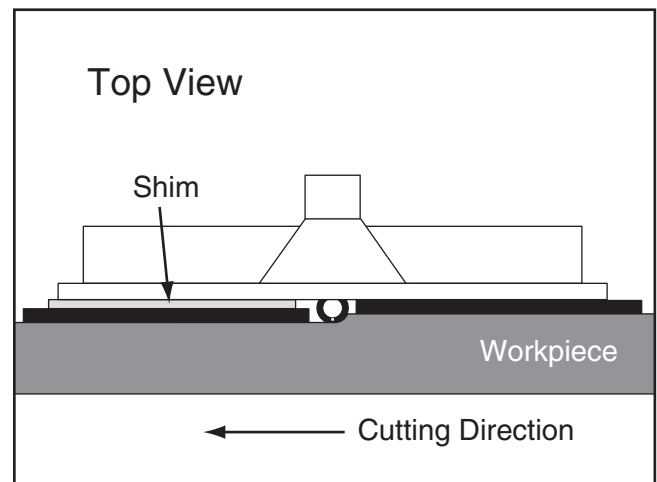

Figure 17. Edge jointing (guard removed for clarity).
8. Connect the router to power, then perform the cut (see **Figure 17**).